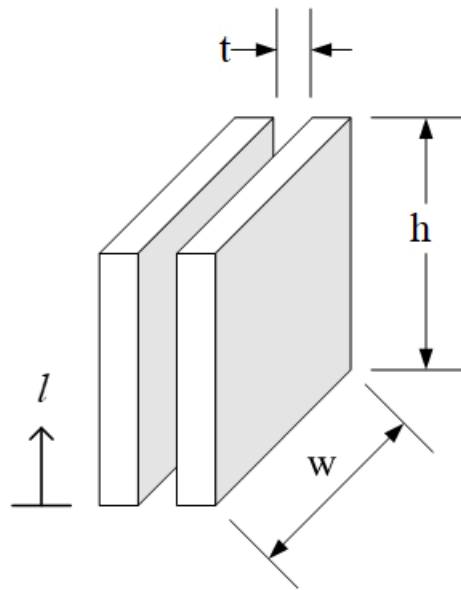

Figure Q4 Capacitive level sensor
4. The following questions relate to the capacitive fluid-level sensor shown in Figure Q4.
- a) A capacitive sensor is used to determine the level of a fluid, l , as shown in Figure Q4. Describe its theory of operation. [4 Marks]